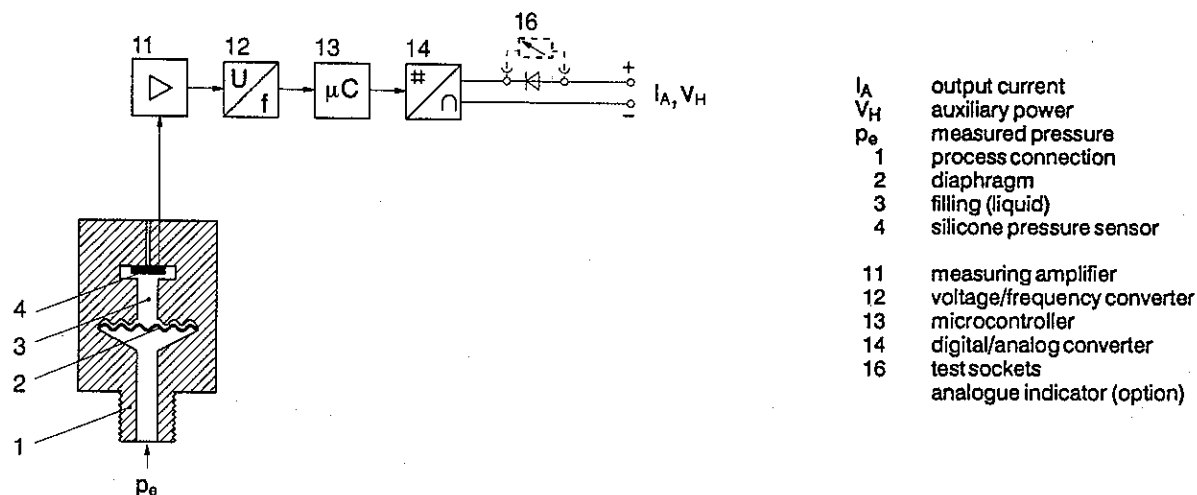

Figure 1.1 SITRANS P pressure transmitter, function diagram
Pressure is transmitted to a silicone pressure sensor (4, see Figure 1.1) through a diaphragm (2) and a liquid filling (3). The pressure causes the sensor's measuring diaphragm to distort. The resistance of four doped piezo-resistors in a bridge circuit in the measuring diaphragm changes. This change in resistance generates an output voltage in the bridge circuit that is proportional to the measured pressure. This voltage is converted into a periodic signal by an amplifier (11) in a voltage/frequency converter (12). A microcontroller (13) evaluates the signal, corrects it with respect to linearity and temperature before passing it on to a digital/analogue converter, which converts it into a 4 – 20 mA output signal.